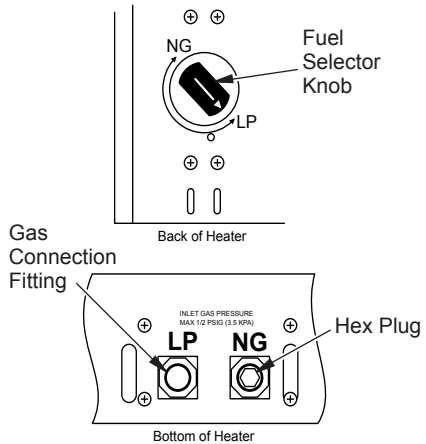

Figure 5 - Settings for Propane/LP Gas Selection
1. Remove top screw from cover plate located on back of heater (see Figure 5). Rotate to expose fuel selection device.
2. For propane gas, press in knob using a flat screwdriver with a blade the thickness of a quarter and turn knob counterclockwise until the knob locks into the LP position (see Figure 5). Fuel selection device must be locked in the LP position. Do not operate heater between locked positions.
4. Remove hex plug from liquid propane inlet of regulator and install into NG inlet of regulator (see Figure 5). Use thread sealant to assure there are no leaks.